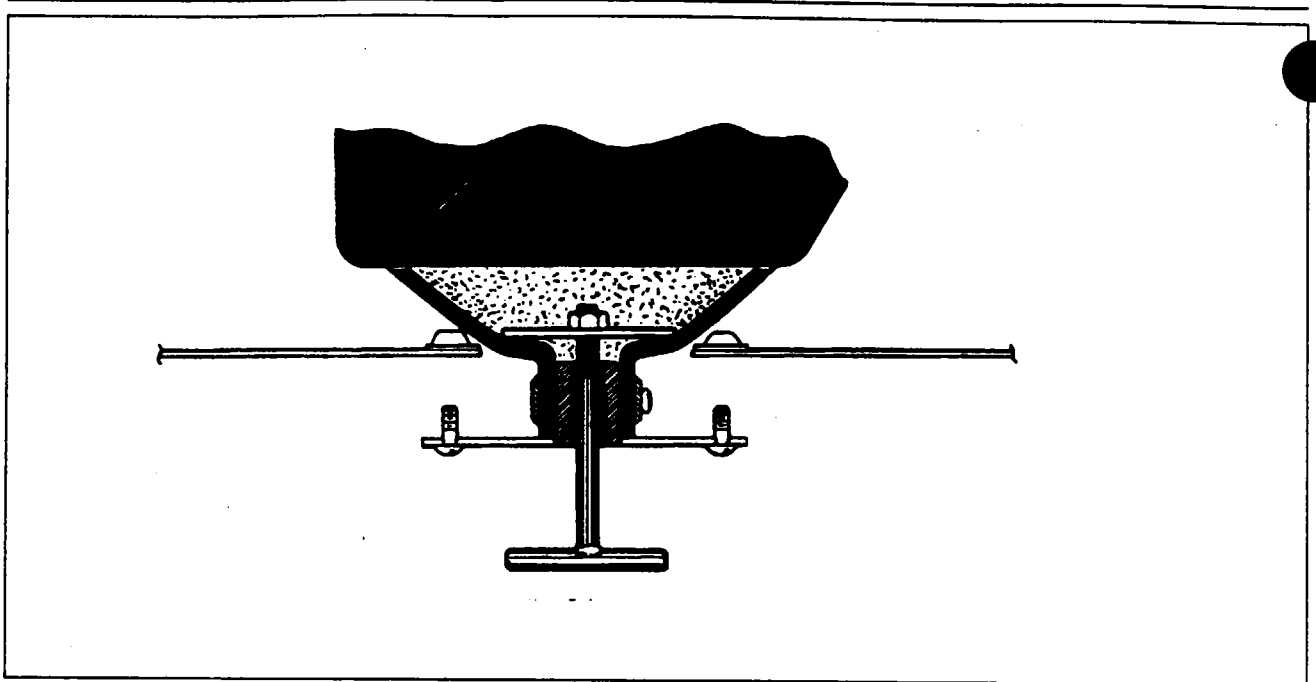

Figure 9-5. Installation Of Fuel Valve Drain Plate
- l. Connect the fuel drain valve plate by inserting the threaded end of bolt or rod not under three inches long, up through the plate and nipple fitting of the fuel cell. (Refer to Figure 9-5.) Reach through the fuel cell opening and install a two to two and one-half inch diameter washer on the bolt or rod and secure with a nut. Pull the nipple down through the opening in the wing panel enough to clamp the nipple fitting to the plate. Remove the bolt or rod, secure plate to wing panel and install drain valve.